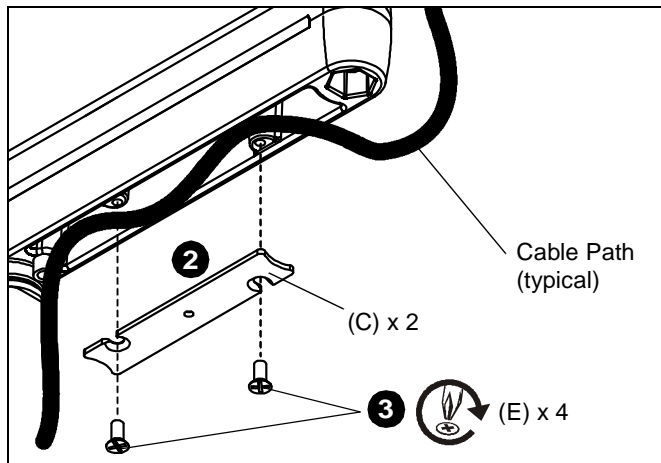

Figure 7
2. Carefully insert cables in cavity located in lower portion of mount arm (See Figure 7).
3. Install cover (C) with two 8-32 x 3/8" Phillips screws (E). (See Figure 7)